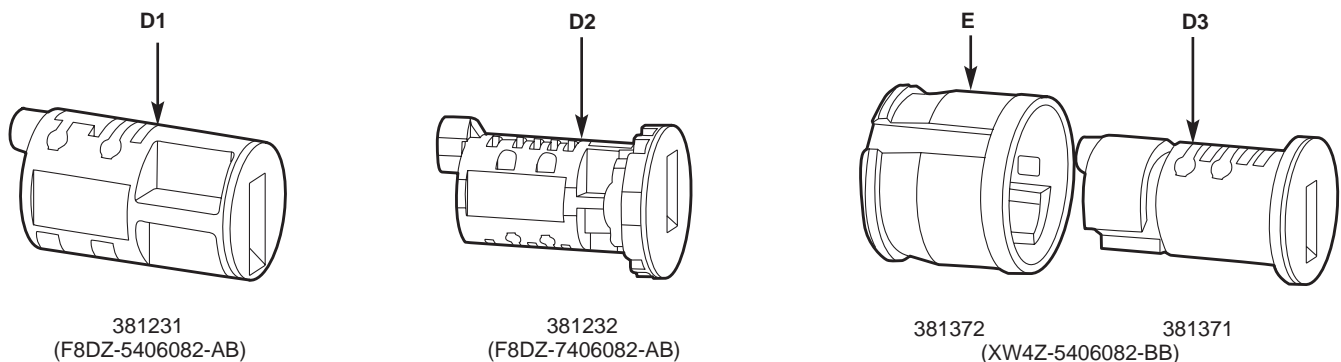
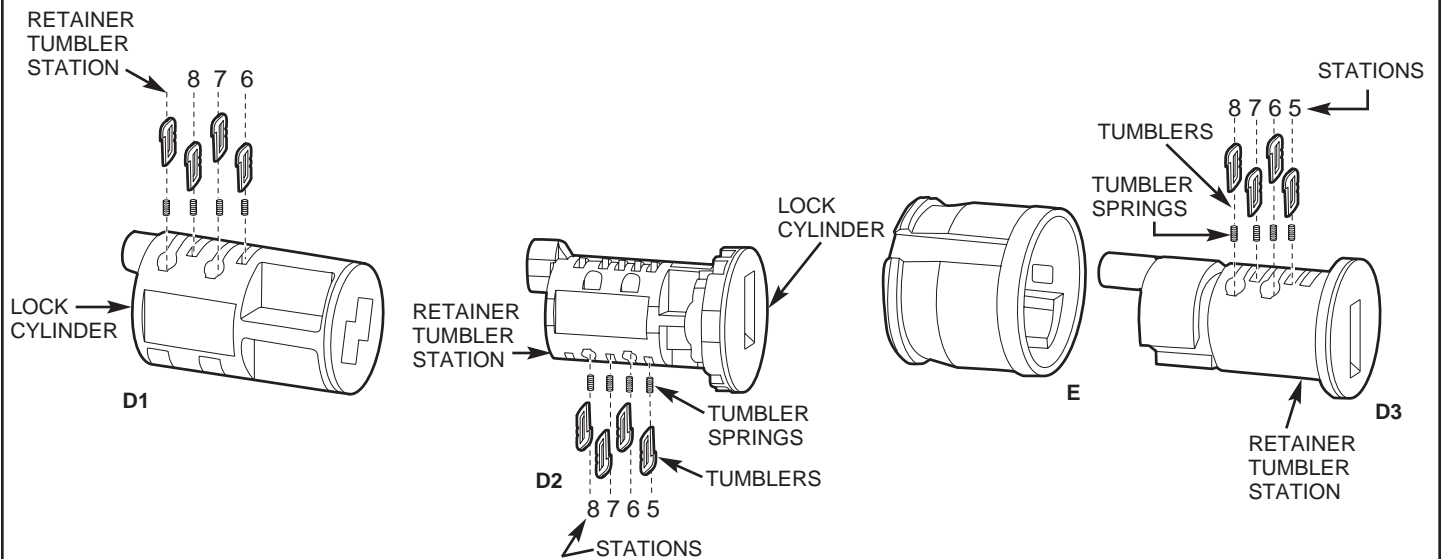

FIGURE 1
FIGURE 3
3. Insert one tumbler spring (C) into the each of the holes located at the end of the tumbler wards on the lock cylinder (D1,D2 or D3).
4. Insert and apply a slight force to press the required tumblers (B1, B2, B3, B4, or B5) into the tumbler wards in the proper orientation (refer to Figure 1 for cylinder D1 and D2), and in the sequence that matches the key cut depths, for key stations 6, 7 and 8 if servicing lock cylinder D1, or stations 5, 6, 7 and 8 if servicing lock cylinder D2 and D3 (refer to Figure 3).
- *4a. Turn the cylinder (D3) over and insert a spring into the anti-rotation tumbler spring hole (refer to Figure 3).
- *6a. Insert the tumbled cylinder assembly (D3) into the case (E) and rotate completely counter clockwise until the cylinder stops (refer to Figure 3).